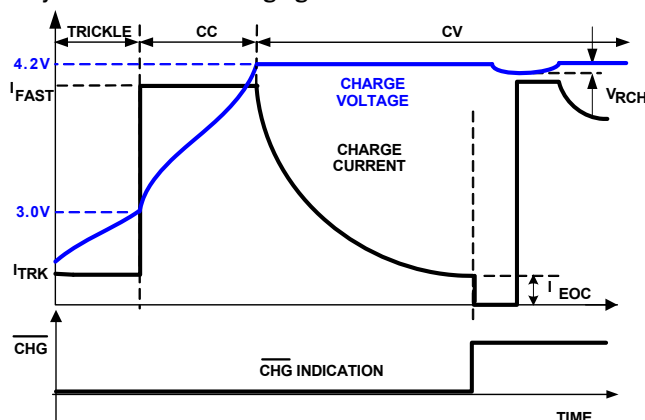

FIGURE 29. TYPICAL CHARGING CYCLE FOR CONT = L
The charger function is similar to other Li-ion battery chargers, i.e., it charges the battery at a constant current (CC) or a constant voltage (CV) depending on the battery terminal voltage. The constant current I_{FAST} is set by the external resistor R_{IREF} . Depending on the combination of the AC/USB and the MODE pin status, the actual charge current may be reduced by the input current limit. When the battery voltage reaches the final voltage of 4.2V, the charger enters the CV mode and regulates the battery voltage at 4.2V to fully charge the battery without the risk of overcharging. Upon reaching an end-of-charge (EOC) current, the $\overline{CHG}$ will turn to high impedance to indicate a charge complete state and if CONT is low, Q2 will be turned off to terminate charging. Figure 29 shows the typical charge profile with the EOC recharge events when CONT is low.